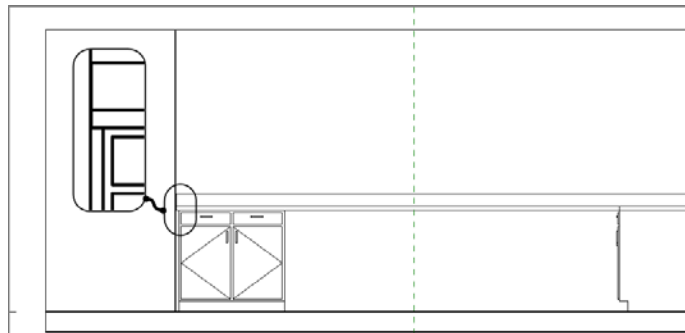

FIGURE 9.61: The 1" (25mm) overhang on the end
8. Move the base cabinet so there is a 1" (25mm) counter overhang, as shown in Figure 9.61.